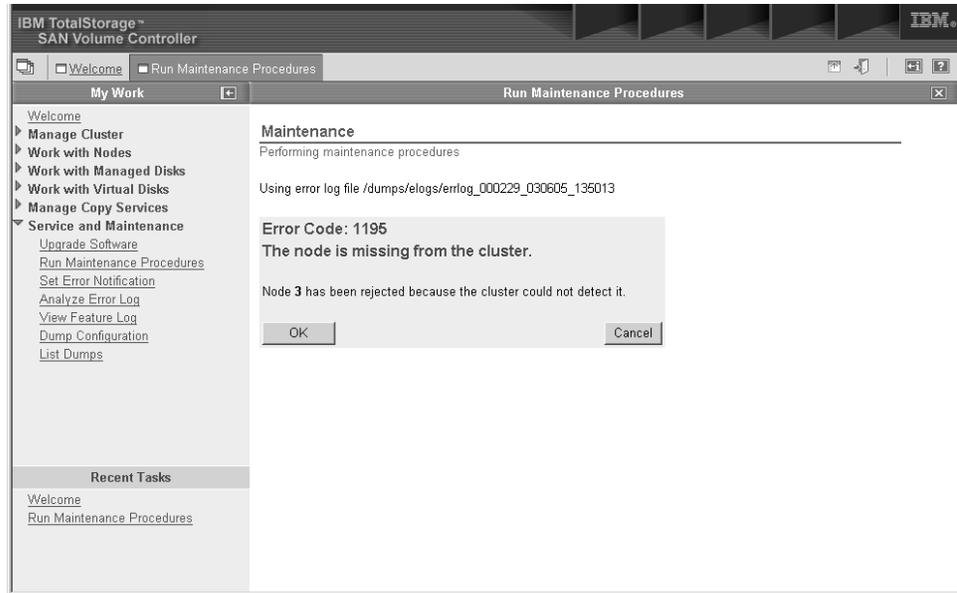

Figure 37. Example of what is displayed when you look for the error code
- Click the hyperlink for the number for the error code at the top of the list to display what is shown in Figure 37 on page 25.
Figure 37 shows the error code and provides a description of the error condition.